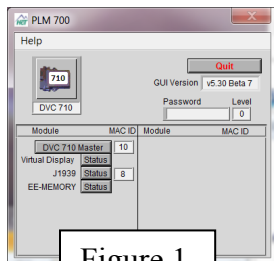

Figure 1
11. On the Main Screen, Figure 1 enter the word “victory” into the password field. The password level should change to 4.